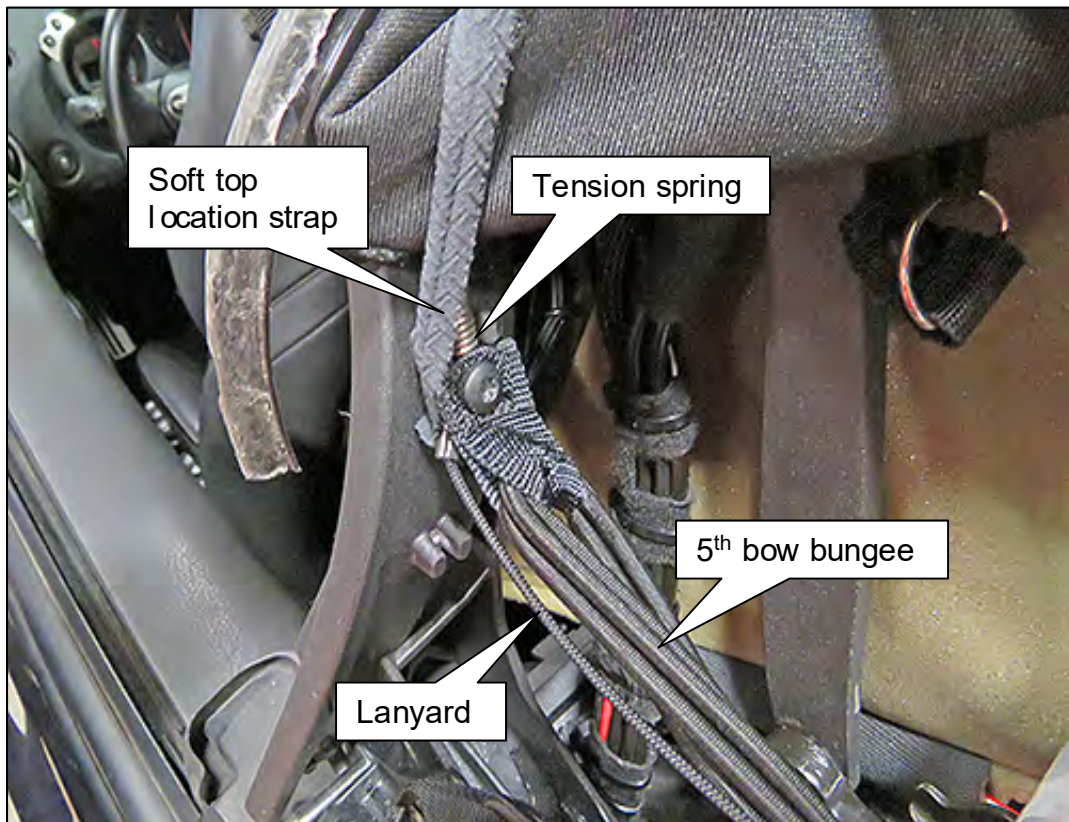

Figure 42
51. Attach the 5th bow bungee, tension spring and lanyard eyelet, assembled in step 48 and step 49, as shown in Figure 42.